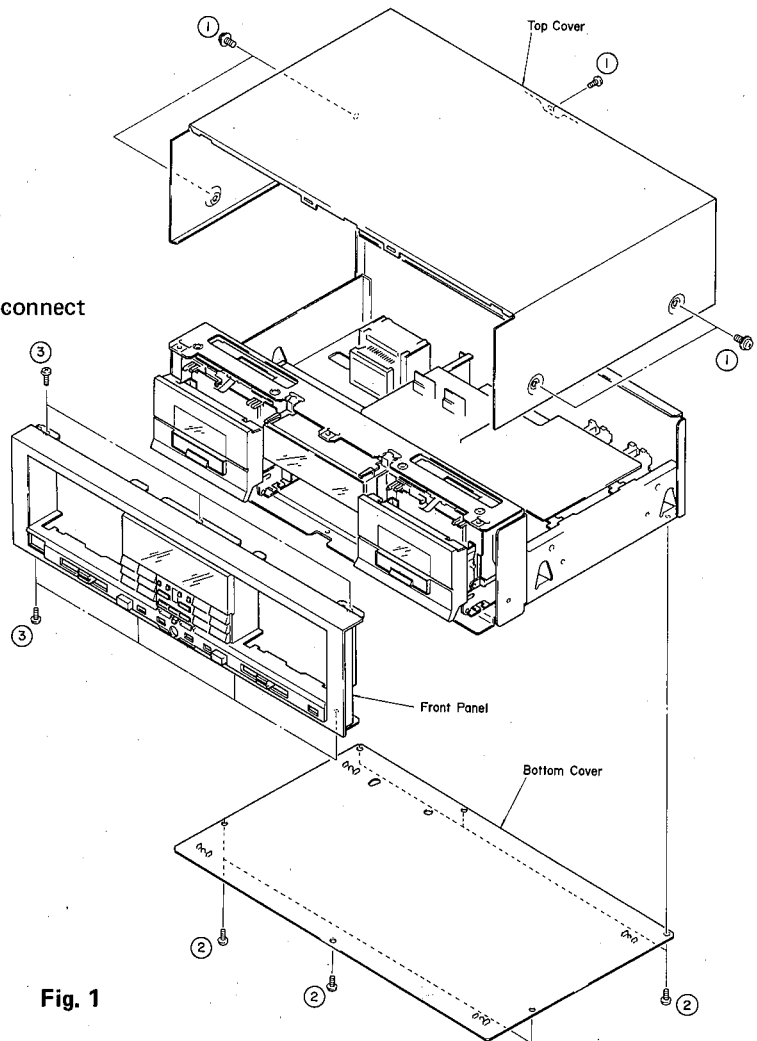

Fig. 1
a. Remove 5 screws (①) in Fig. 1.
a. Remove 6 screws (②) in Fig. 1.
a. Remove 7 screws (③) in Fig. 1.